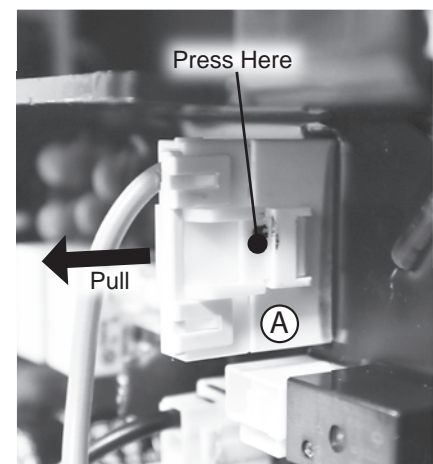
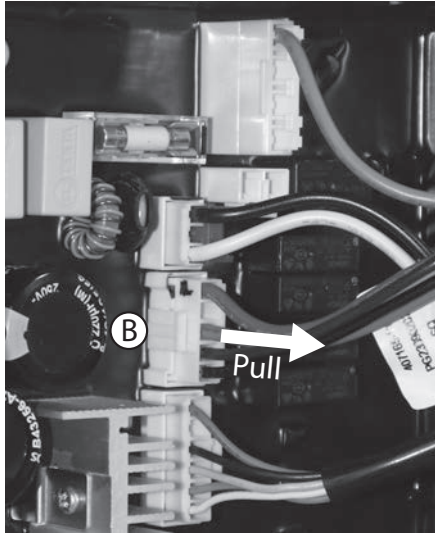

Figure 55 - Wiring harness A removal.
Figure 56 - Wiring harness location
- 7 Using Figure 55 & Figure 56 as reference, disconnect wiring harness A and B from the control board.
NOTICE: To remove wiring harness **(A)**, depress the spot shown in Figure 55 while pull the harness away from the control board.
- 8 Disconnect wiring harness **(B)** shown in Figure 56.